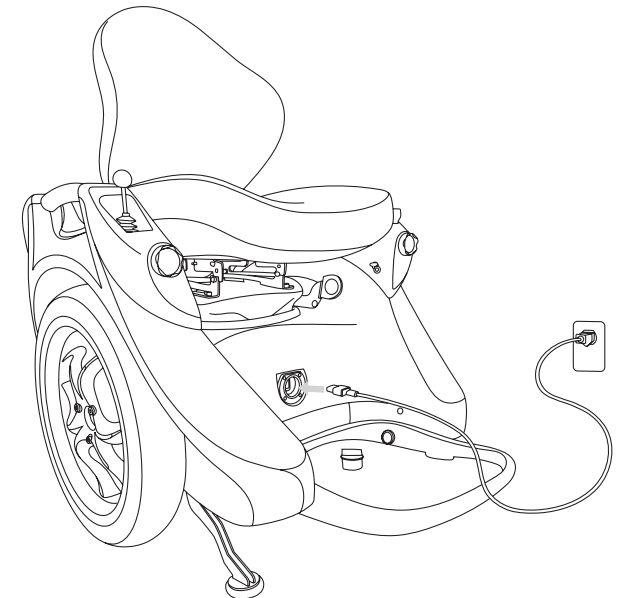

Figure 33: Charge your Omeo's Lithium-ion Batteries through the Main Charge Port at the front of the unit.
3. Open the Main Charge Port on the front of the Omeo (**see Figure 33**) and verify that the Main Charge Port, along with the Power Cord and AC Power outlet, are dry, clean, and free of any debris